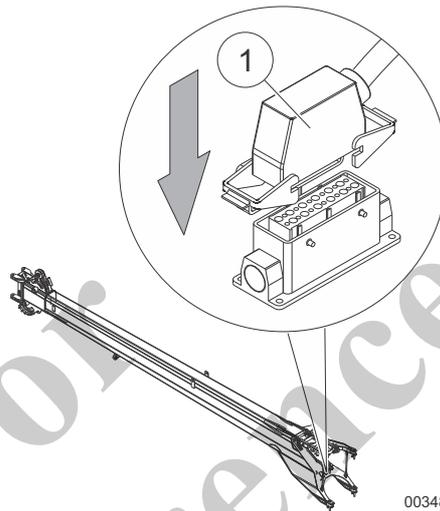

Fig. 190 Cable for lifting limit switch in park position
- 9 Remove the lifting limit switch cable of the fly boom from the telescopic boom head and insert it into the storage bush (1) in Fig. 190 on the fly boom.